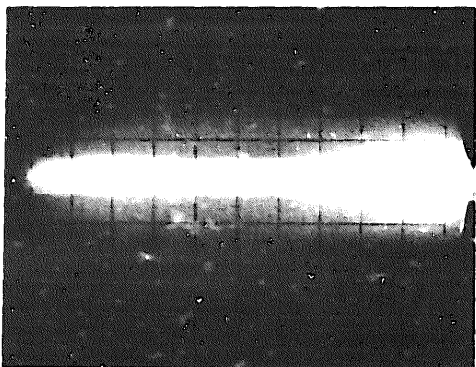
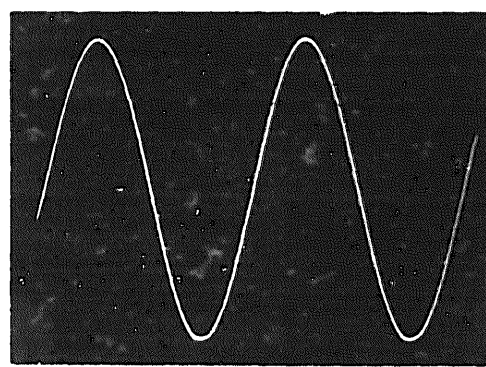

Figure 1-8. Single-shot trace bloom caused by INTENSITY and or PERSISTENCE set too high
Figure 1-9. Single-shot display with INTENSITY and PERSISTENCE set the same as Figure 1-7
- g. **BLOOM** - A visible, non-symmetrical expansion of a display written on the CRT screen. Figure 1-8.
a. **PERSISTENCE and INTENSITY.** These controls contribute to the duration of afterglow of a display. Always set PERSISTENCE and INTENSITY as shown in Figure 1-8. The PERSISTENCE control sets the rate at which a display is erased; INTENSITY sets the brightness of the trace as it is written. With a given PERSISTENCE setting, the actual duration of trace afterglow may be increased by increasing the INTENSITY. Since the PERSISTENCE control sets the rate of erasing a written display, it follows that a brighter trace will require more time to be erased. Conversely, a display of low intensity will disappear more rapidly. The same principle applies to a stored display of high and low intensity.
Trace blooming, Fig. 1-8, is the best indicator of excessive **INTENSITY** which can damage the CRT. However, blooming does not occur when **PERSISTENCE** is set to **NORMAL**. Therefore, **DO NOT INCREASE INTENSITY WHEN PERSISTENCE IS SET TO NORMAL**. Always be sure to repeat above procedure each time sweep speed or input signals change.
approach. The amplitude of the phenomena and the sweep-time required to display it will affect the persistence. For example, with maximum PERSISTENCE and some settings of INTENSITY, a single-shot straight-line trace may bloom, Fig. 1-8, and a single-shot signal with amplitude variations of several centimeters may not cause blooms, Fig. 1-9. To determine the best INTENSITY setting, connect a signal which approximates the sweep time and amplitude of the single-shot signal to be written. Set PERSISTENCE fully clockwise and trigger a single sweep of the test signal. Set the INTENSITY as far clockwise as possible without causing blooming. Repeat the single sweep signal, erasing the display and setting the INTENSITY after each trace until the desired display is obtained. This setup should give maximum persistence to the single-shot display. After the single-shot signal has been written, turn the Presentation Selector to STORE to retain the display.